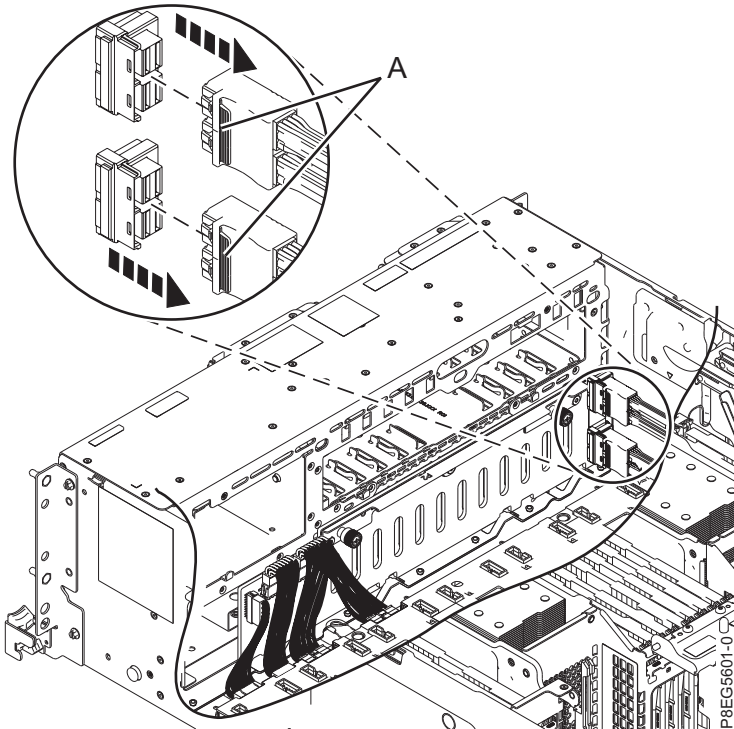

Figure 3. Disconnecting the front SAS cables
4. Label the front SAS cables, paying attention to the connectors each cable attaches to on the disk drive backplane and the SAS RAID internal adapter. Disconnect the front SAS cables from the disk drive backplane by pressing the latch (A) and unplugging the cable as shown in Figure 3 on page 6.